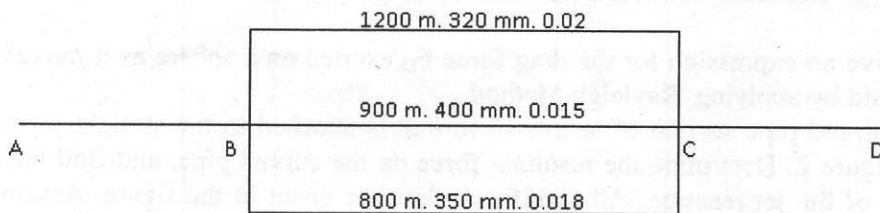

Figure 4
6. (a) Water is flowing through the pipe system as shown in figure 4. The pipe length, diameter and friction factor are given in figure. For a total discharge of $0.80 \text{ m}^3/\text{s}$, find flow through each pipe, head loss from B to C and pressure at C assuming $P_B = 200 \text{ kN/m}^2$ and $Z_B - Z_C = 5 \text{ m}$. (17)